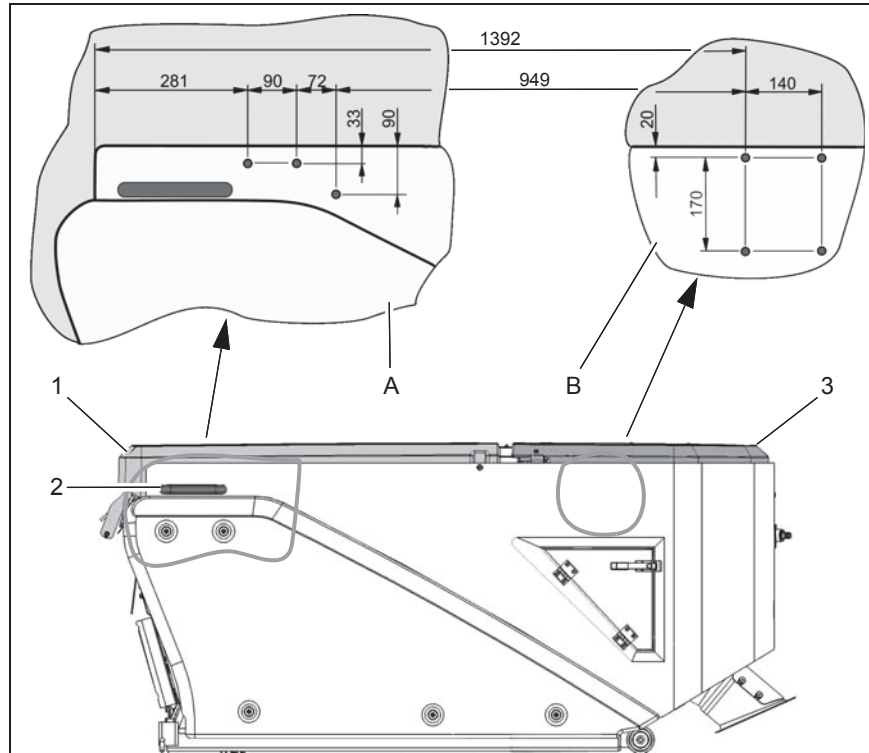

Fig.2
1. Open the lid (Fig. 2/1) of the dirt hopper.
2. Remove the handle (Fig. 2/2).
3. Drill the three holes $D = 9$ mm for the left holder according to sketch (Fig. 2/A).
4. Close the lid (Fig. 2/1) again and open the maintenance flap (Fig. 2/3) for the suction fan.
5. Drill the four holes $D = 9$ mm for the right side holder according to sketch (Fig. 2/B).